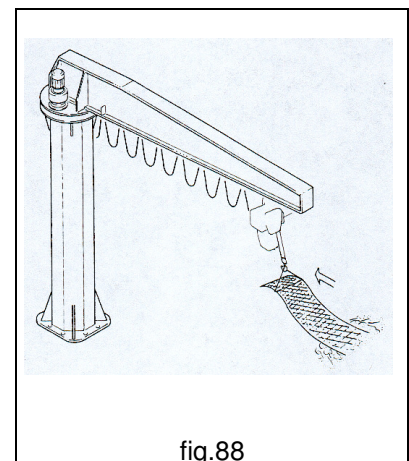

fig.88
- **NEVER** use the crane or its lifting apparatus for pulling or dragging (fig.88).